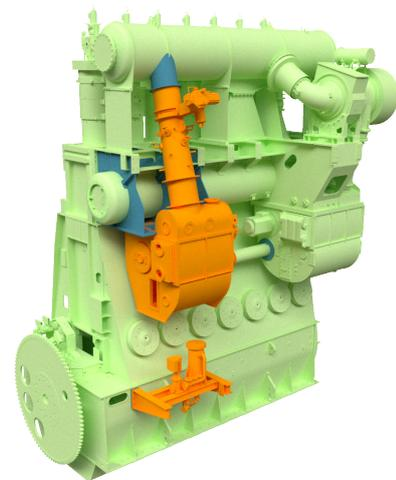
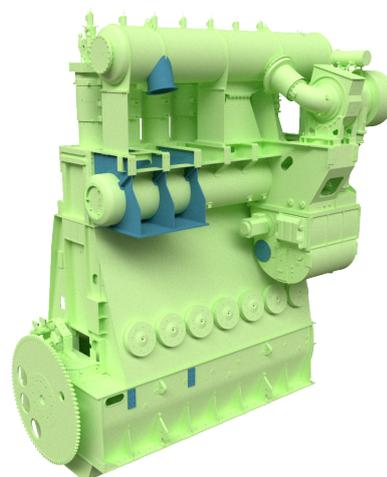

Fig. 1: Tier III HP-EGR engine prepared with key EGR equipment (Solution 1)
Fig. 2: HP-EGR prepared solution without EGR equipment installed (Solution 2)
**Solution 1:** The HP-EGR solution in Fig. 1, is suitable for owners who definitely expect to retrofit a solution in the future, but who would like to postpone the first-cost expenses for sub-components. This solution entails that a parent engine of a certain vessel series is tested and certified as a Tier III engine from start and, subsequently, the components are removed from the (parent and not installed on member) engine(s) and blinding flanges are installed accordingly, see Fig. 2. This makes retrofit easier and limits certification issues with very limited Tier II SFOC changes compared to Tier II engines.
**Solution 2:** The HP-EGR prepared solution in Fig. 2 is suitable for owners who do not know whether retrofit for Tier III is going to be relevant in the future. This solution only includes making space in the engine room and ensuring tank capacity along with minor modifications to the engine, such as preparing specific flanges and supports for more weight and making room for certain valves. This solution would require a major retrofit job. In addition to the cost of the Tier III equipment and its installation, expenses for modification of the engine and T/C components should be included. In conclusion, the engine will need re-certification or technical file amendments for both Tier II and Tier III modes, which calls for a sea trial, onboard survey and class approval.